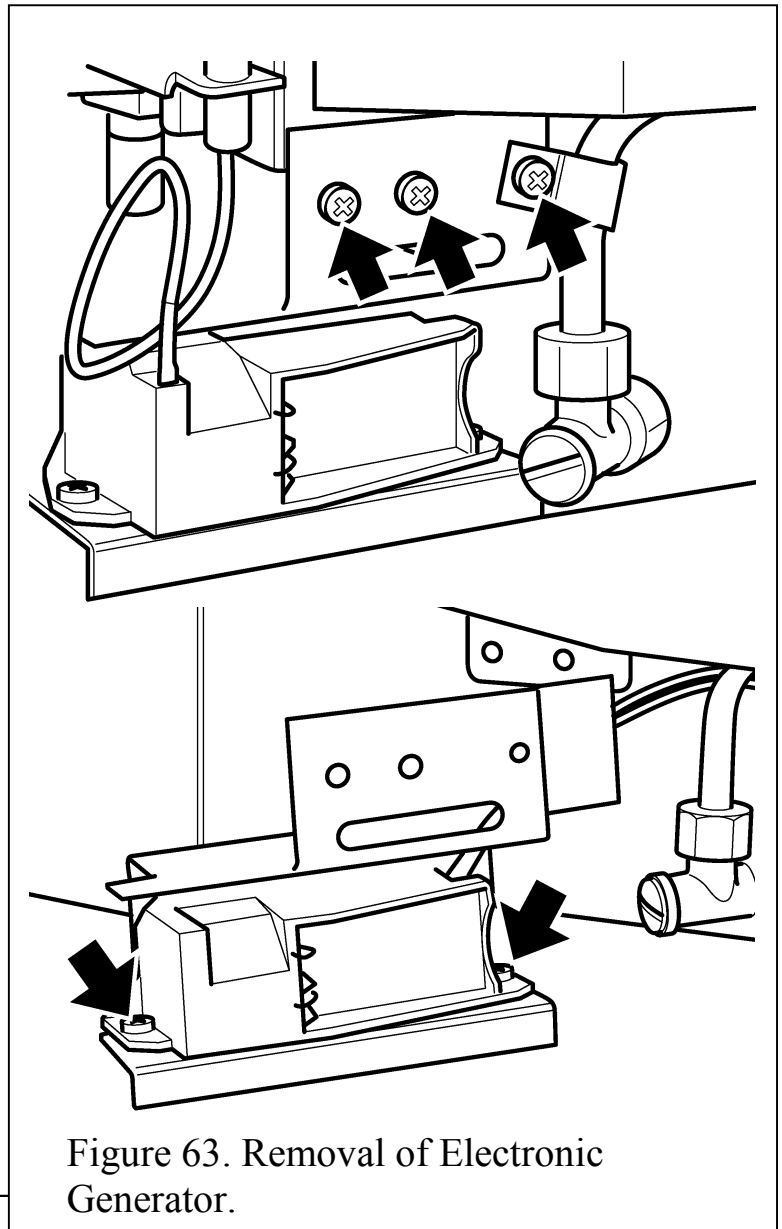

Figure 63. Removal of Electronic Generator.
7. Remove the two fixing screws that attach the generator unit to the support bracket. The igniter generator can now be removed. (see figure 63)